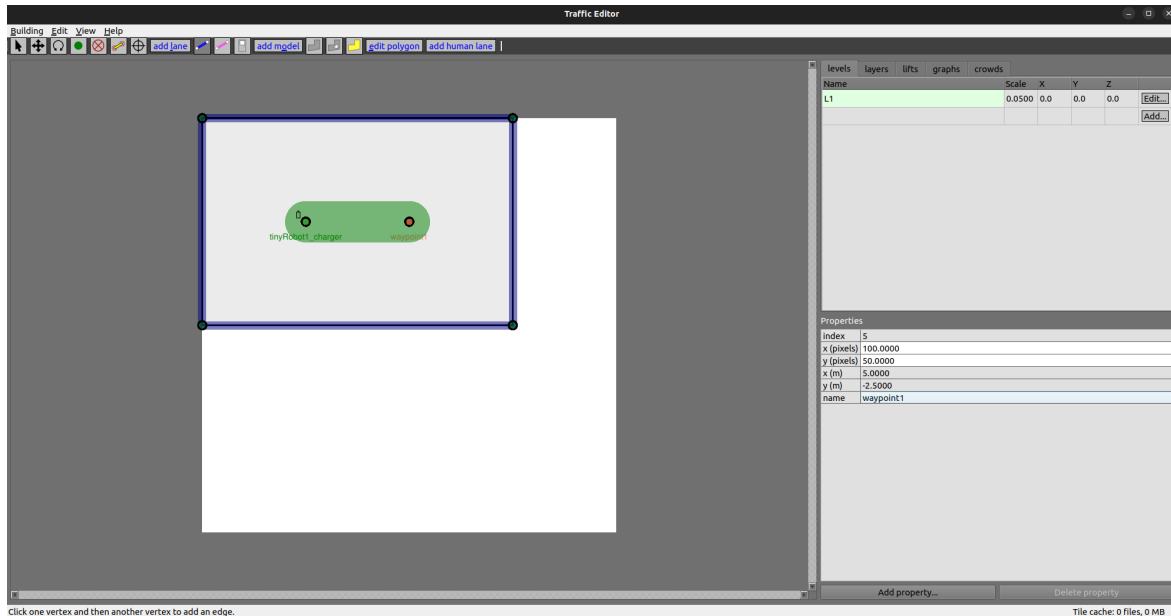

Figure 9: Adding a Lane
- To allow the robot to move, click on add_lane or press 'L' to invoke the lane tool. Select the vertex used for the robot spawn point and create a lane by clicking on another vertex or in any place in the map (this will create a new vertex). Press 'Esc' and if you created a new vertex select it, then change its x and y coordinates to (100, 50) and name it waypoint1 (Figure 9).